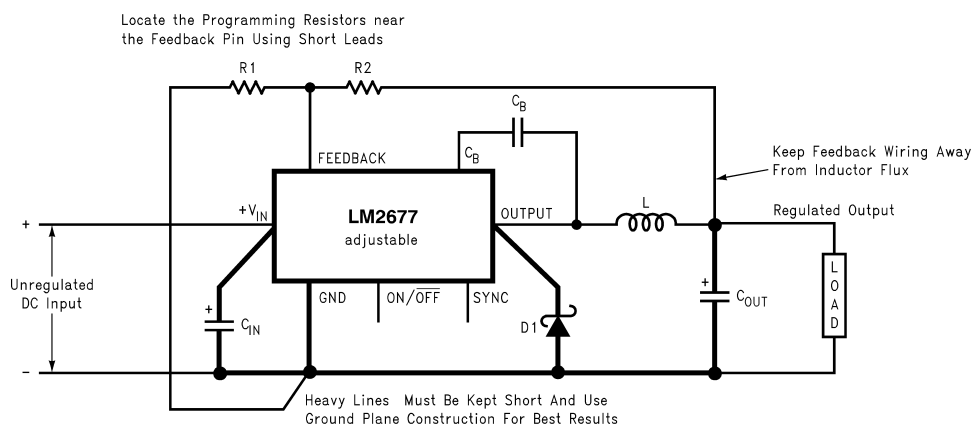

Figure 20. Basic circuit for adjustable output voltage applications
Step 2: Select an LM2677S-ADJ. To set the output voltage to 14.9V two resistors need to be chosen (R1 and R2 in Figure 20). For the adjustable device the output voltage is set by the following relationship: